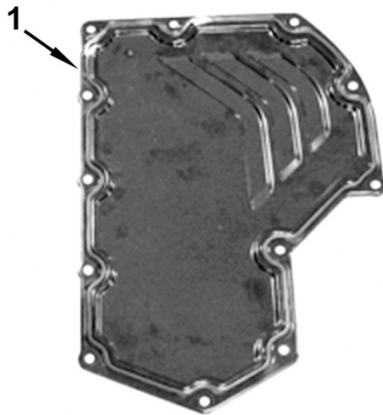

Figure 21 Camshaft Gear Cover Gasket
25. Inspect original cam gear cover seal for leaks or any deformity. It can be reused if it has not been removed or disturbed in the cover groove. If a new seal is installed, go to step 27. If seal is not damaged, no further action is required (Figure 21, Item 1).